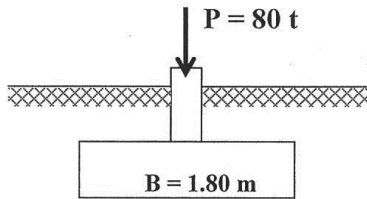

Fig. 3
- A square footing shown in Fig 3 supports a column load of 80 ton. Determine the vertical stress under the centre of the footing at depth of 2.0, 3.0, 4.0 and 5.0 m.
- Without any calculations draw the details of reinforcement for the sections in footings shown in Fig. 3 focusing on main reinforcement.